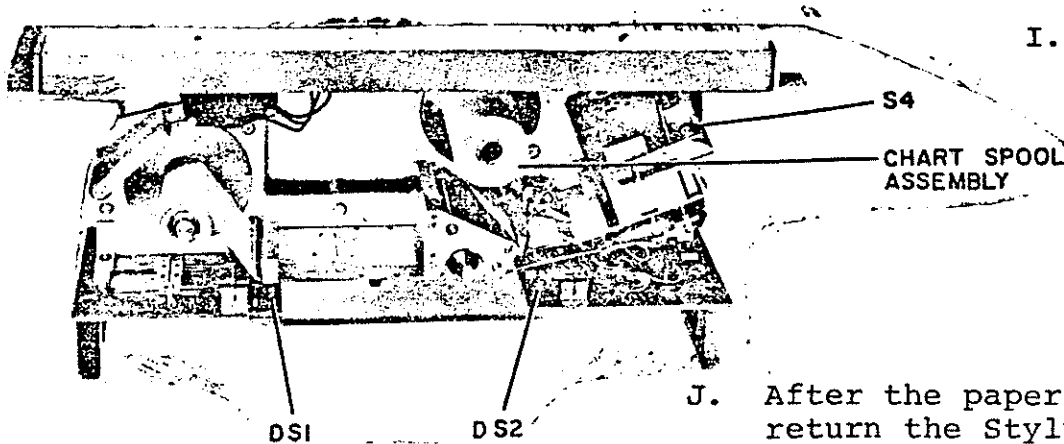

Figure 2
e. Place new roll on spool assembly, (notched end down), so that chart unrolls in a counterclockwise direction, see figure 2.